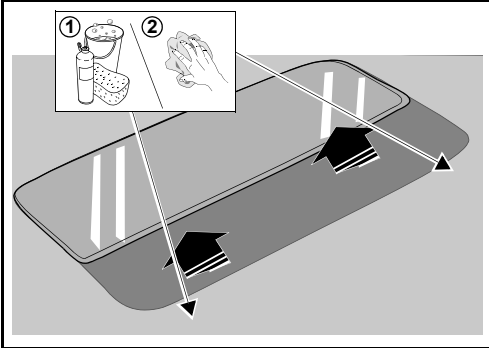

Figure 1. Cleaning areas
1. Clean installation areas thoroughly and open the sunroof window as shown in Figure 1.